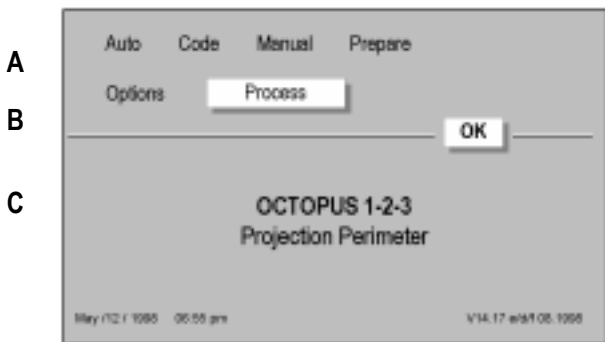

Figure 1-2
The screen is usually divided into two sections by a horizontal line (B) in Figure 1-2. The upper part (A) contains the menu bar. Main sections are defined below:
NOTE: There is a choice of six languages depending on the software version as displayed in (Figure 1-2).
From the main screen (Figure 1-2) there are two ways to start an examination.